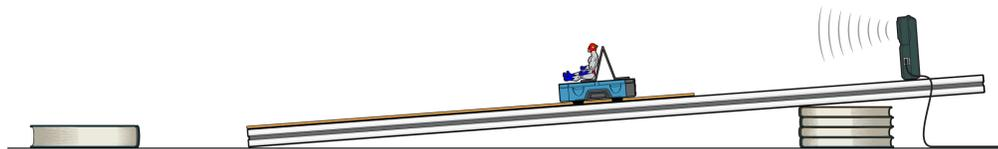

Figure 1
- a. Set up a ramp on books as shown in Figure 1. The high end of the ramp should be 45 cm above the floor.
- d. Fasten the Vernier Motion Detector at the top and center of the ramp as shown in Figure 1. Connect the Motion Detector. If your Motion Detector has a sensitivity switch, set it to Cart/Track.